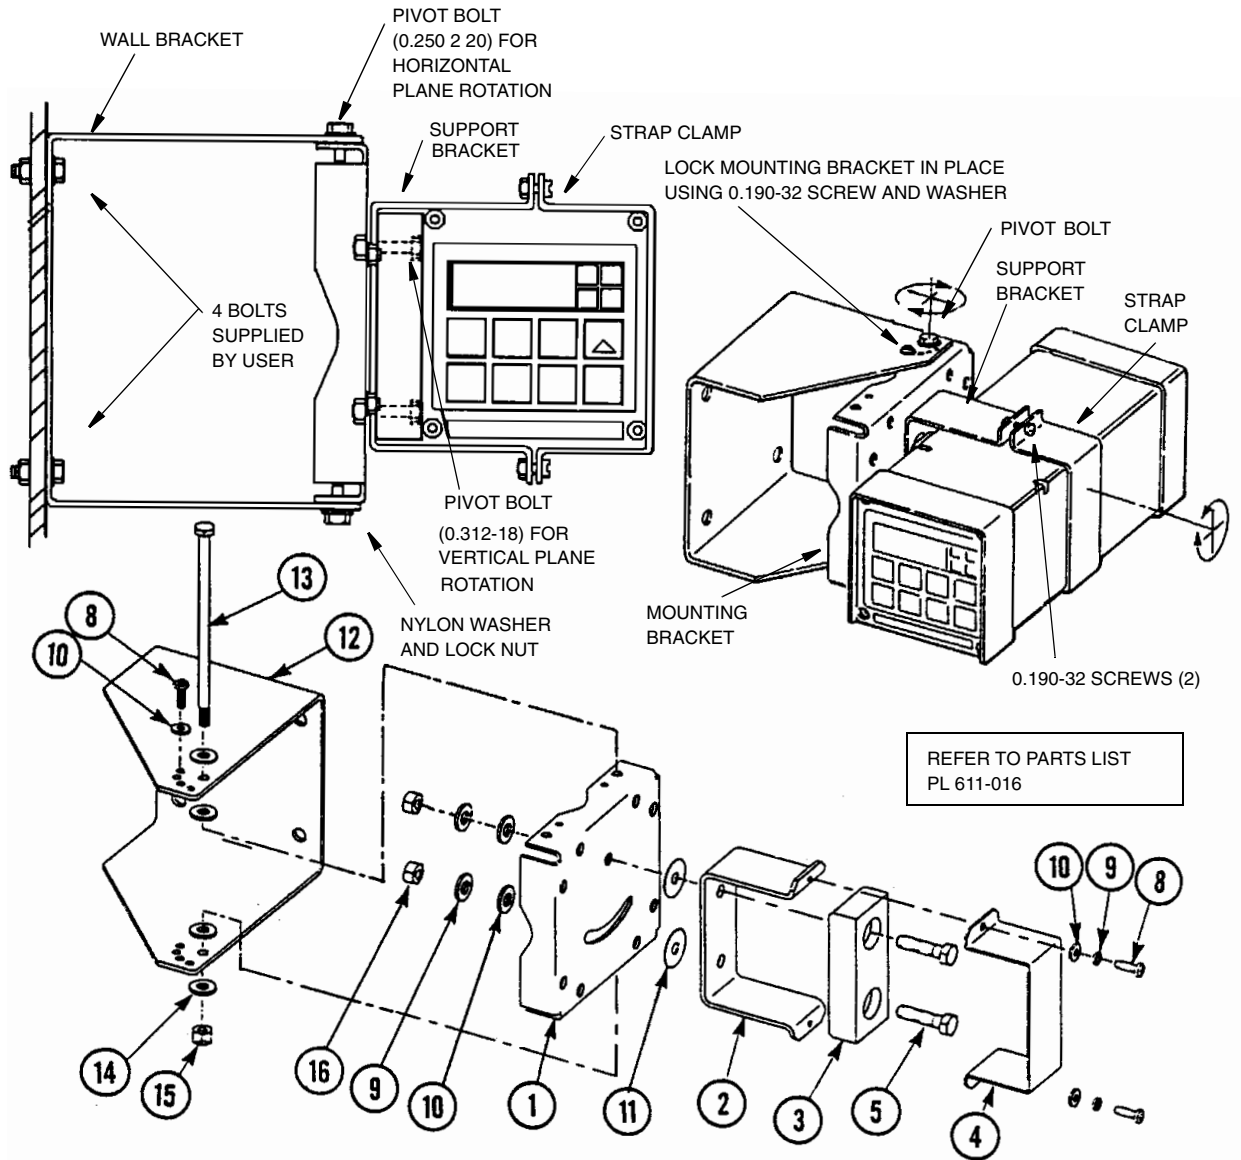

Figure 9. Metal Enclosure - Movable Mount
2. Referring to Figure 9, use wall bracket (12) as template for drilling four holes into mounting surface. Notice that the holes in the wall bracket are 9.53 mm (0.375 in) in diameter.
3. Attach wall bracket (12) to surface using four bolts, washers, and nuts.
- a. Place hex bolts (5) through spacer (3) into support bracket (2).
- b. Slide nylon washers (11) over bolts (5).
- c. Slide bolts through universal mounting bracket (1) and fasten assembly finger tight with hardware designated 9, 10, and 16.
5. Slide analyzer into support bracket (2) and slide strap clamp (4) onto the analyzer. Using two screws, nuts, and washers, attach the strap clamp to the support bracket to secure the analyzer.
6. Lift entire assembly of Step 5, align mounting bracket (1) and wall bracket pivot bolt holes, and then insert pivot bolt (13) through wall and mounting brackets into nylon washer (14) and locking nut (15).